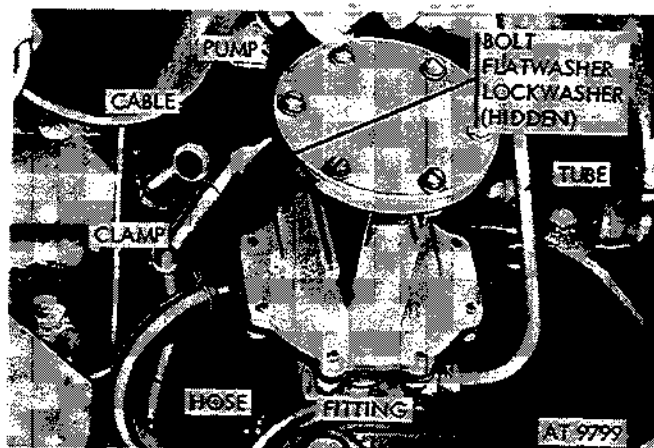

Figure 2-381. Remove vacuum pump (M151, M151A1, M151A1C, and M718 Vehicles).
c. *Windshield and Windshield Wipers (M151, M151A1, M151A1C, and M718 Vehicles)*. A hinged-type windshield is provided with two windshield wiper vacuum motors, wiper arms, and blades. The vacuum motors are driven by engine intake manifold vacuum and the vacuum pump mounted at right front of the engine (fig. 2-381) and controlled by the vacuum valve which is mounted on the dash panel directly to the right of the steering column. In case of vacuum motor failure, the wipers can be hand-operated. Defroster passages are incorporated into the windshield and cowl.
a. Removal (fig. 2-381)
- (1) Remove tube fitting outlet from vacuum pump.